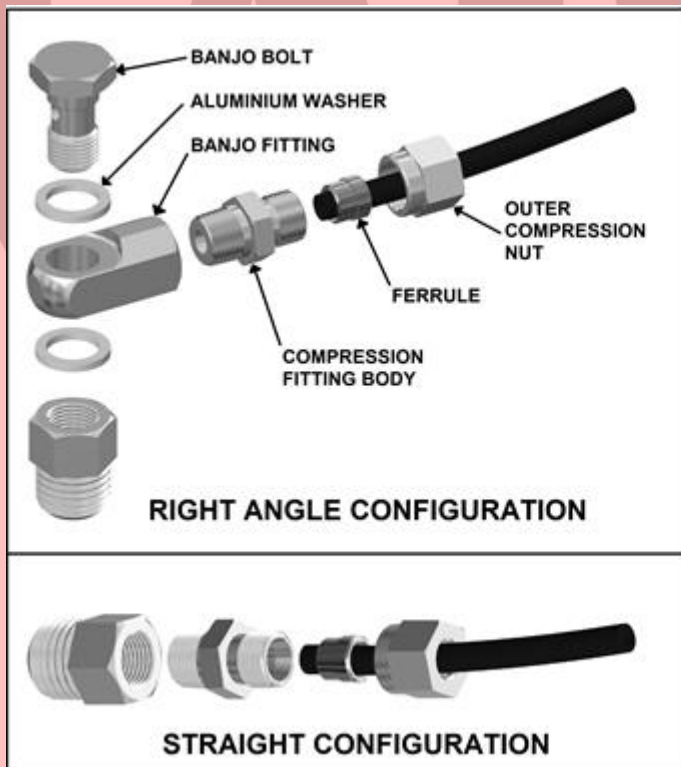

Figure 13. Air Locker bulkhead fitting assembly (170114)
- ☐ Insert the outer compression nut and ferrule over the air line. Ferrule should be oriented as per Figure 13.
NOTE: When right angle routing of the tube is not required, screw the compression fitting body straight into the bulkhead fitting body (Figure 13).
- ☐ Consulting the wiring diagram (Fig. 13.) for wire colours, and the switch terminal illustration (Fig. 14.), plug each of the female spade terminals onto their appropriate switch terminal.